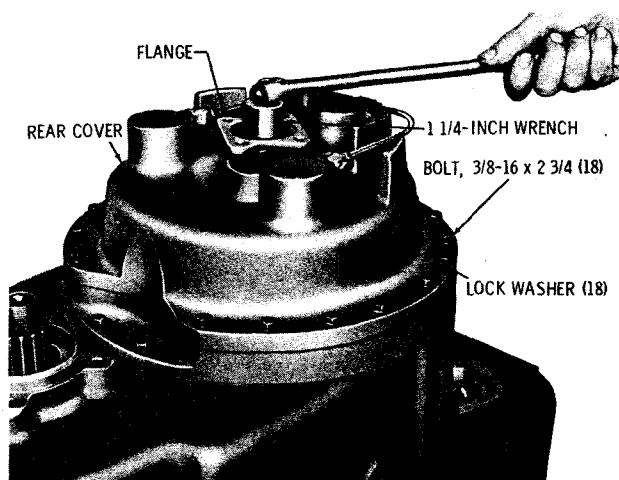

Fig. 5-20. Removing power takeoff flange nut
(1) Using a 1-1/4-inch socket wrench, loosen but do not remove the PTO flange retaining nut (fig. 5-20). Remove the 18 bolts and lockwashers that retain the rear cover assembly. Spring pressure will push the rear cover upward.
(1) Remove the 18 bolts and lockwashers that retain the rear cover assembly (refer to fig. 5-20). Spring pressure will push the rear cover upward.
(2) Attach a sling to the bolt flange of the rear cover, and remove the rear cover and attached parts. Refer to paragraph 6-14c and d for rear cover assembly rebuild instructions.